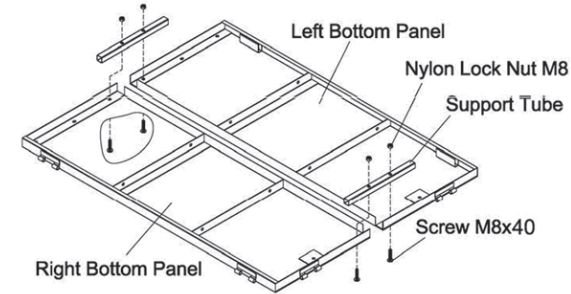

Fig. 1
STEP 1 Attach Bottom Panels and Support Tubes (See Fig. 1)